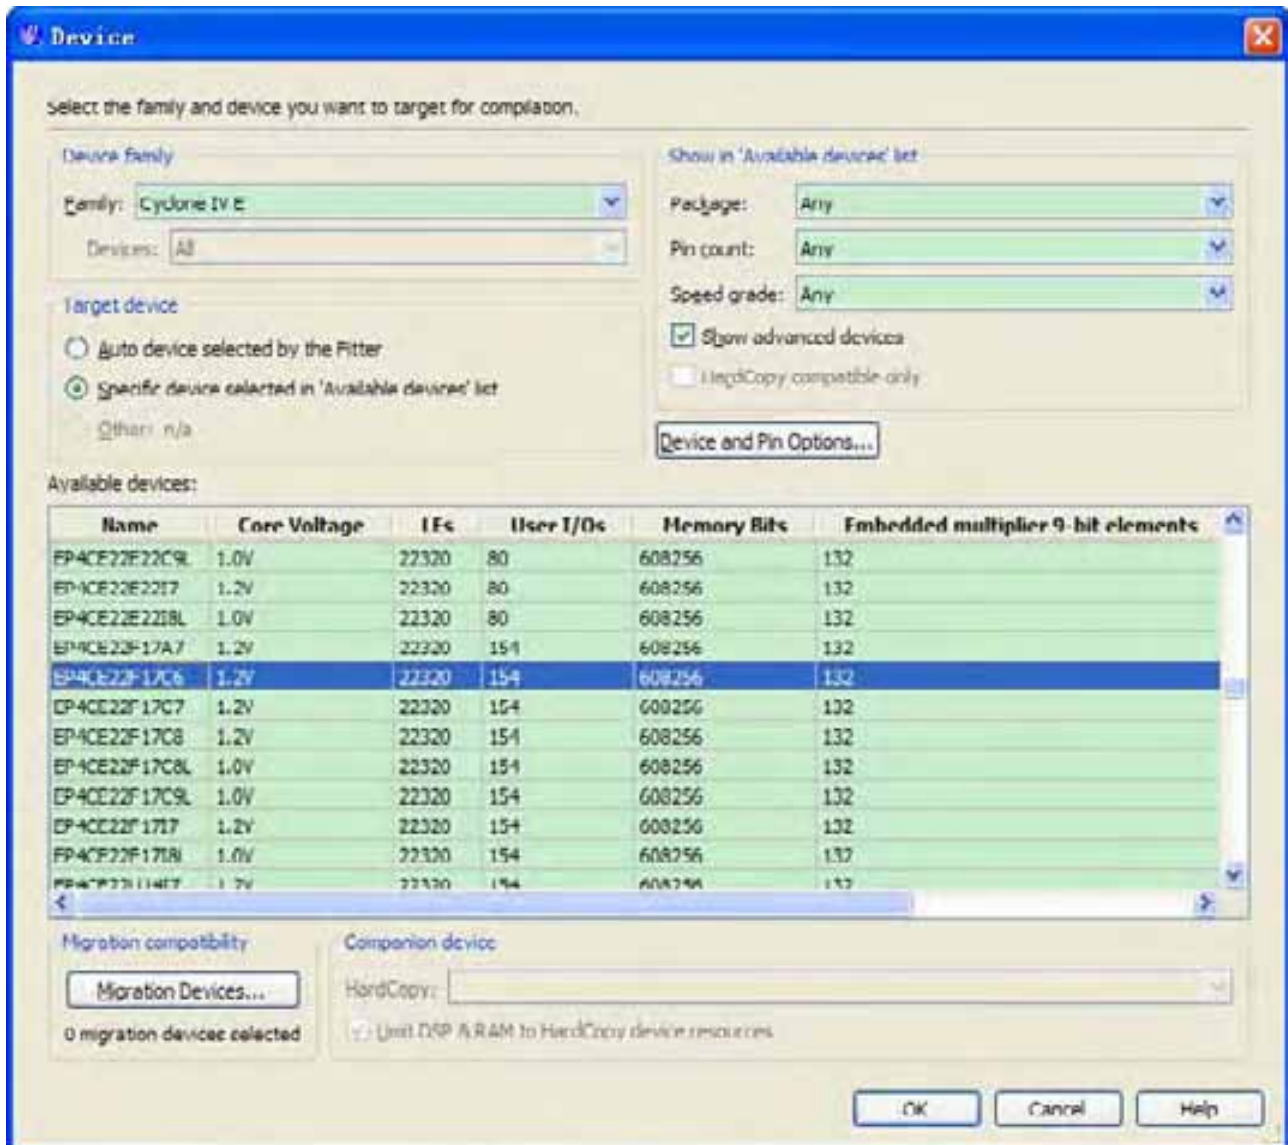

Figure 6-49 Device and Options
3. If other LEDs emit faintness light, select Assignments > Device. Click Device and Options. See Figure 6-49.